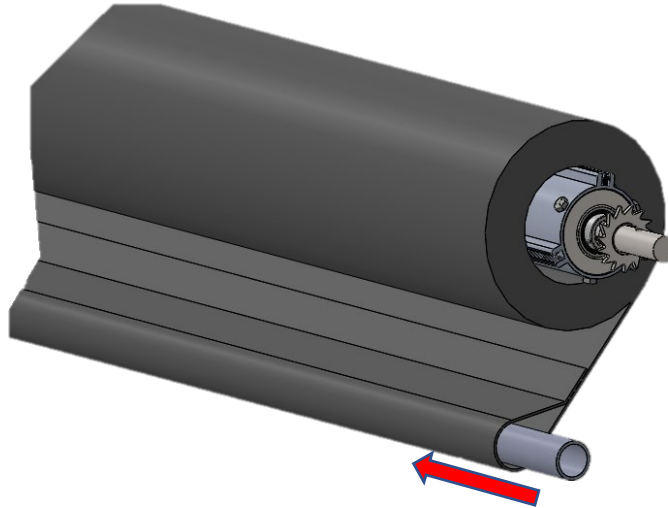

Figure 2 – Inserting Stationary Tarp Tube
6. Set roll tube on roll rest. Slide stationary tarp tube in to tarp pocket (or self-tap to tarp tube for older tarp styles). See Figure 2.